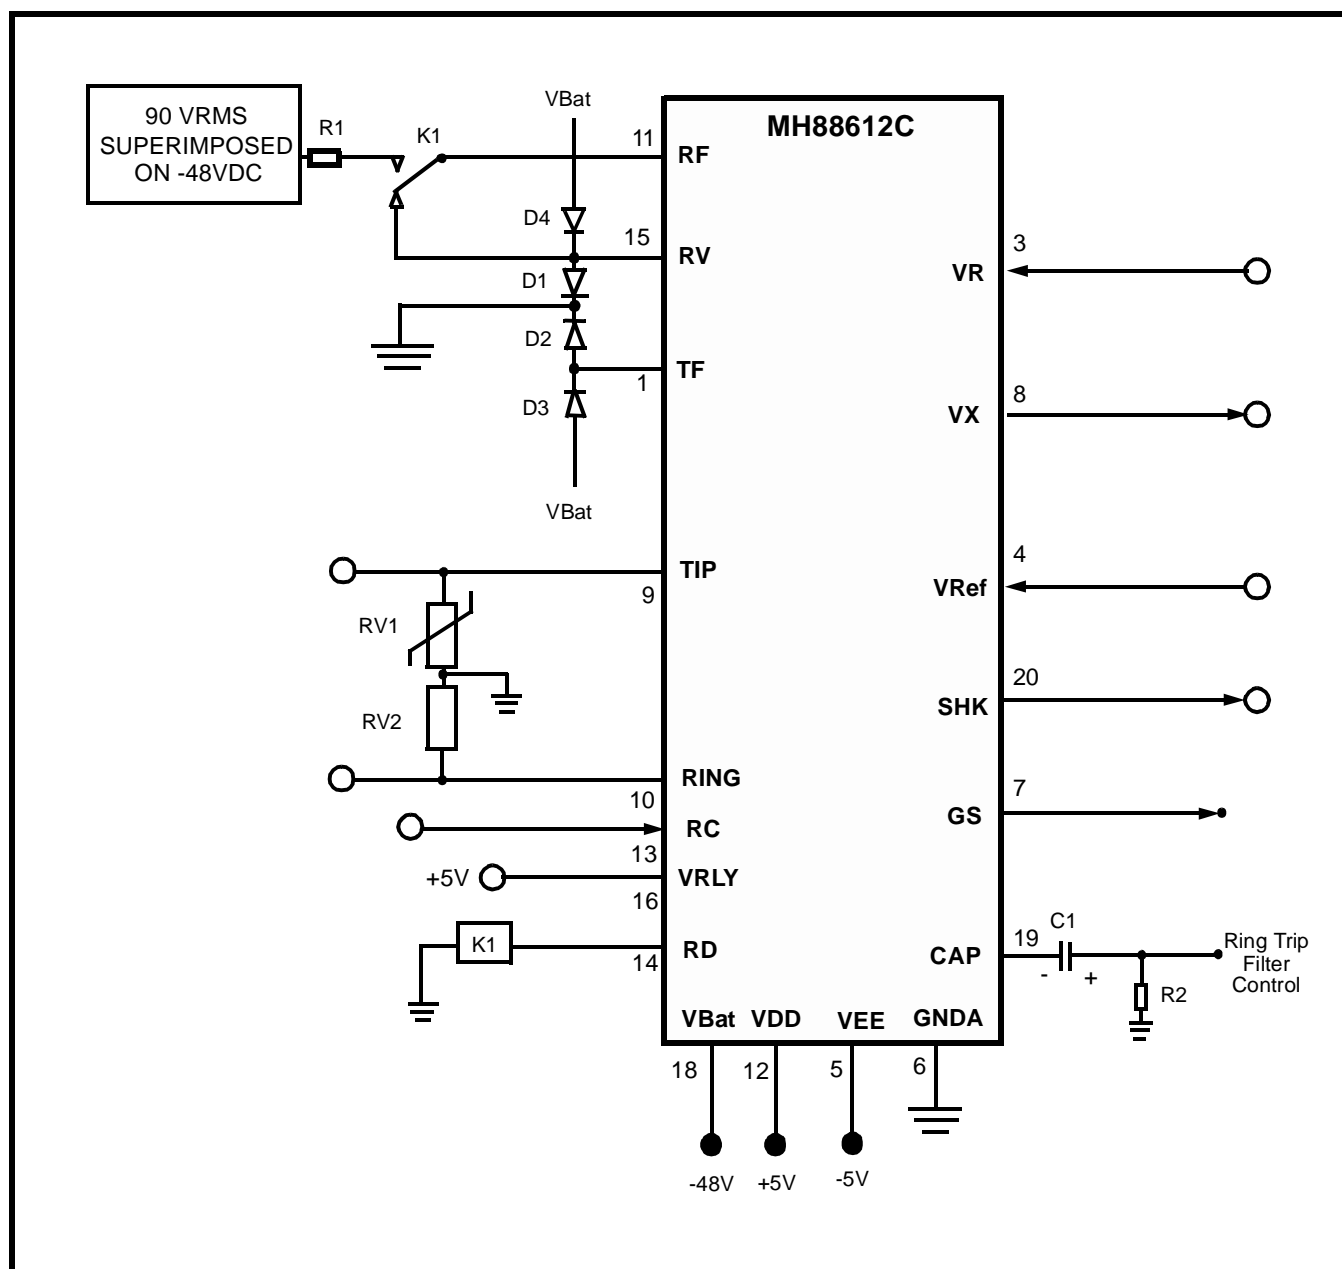

Figure 3 - Application Circuit
In Figure 3 a ringing signal (e.g. 90 Vrms superimposed on -48 VDC) is applied to the line by disconnecting pin 15 (RV) from pin 11 (FR), and connecting the ringing voltage at pin 11 (RF) by use of the relay K1.